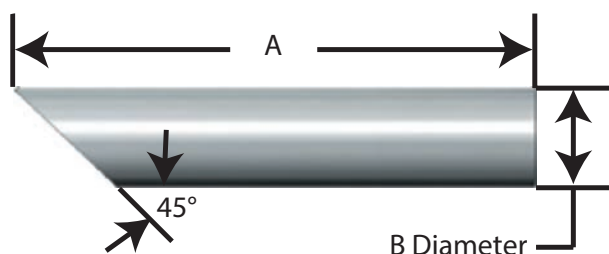

Figure 47: Drift Pins Specification
Drift Pins - Two drift pins are required for the removal of the disc (6) from the disc holder (8) (see Figure 47 and Table 27a).